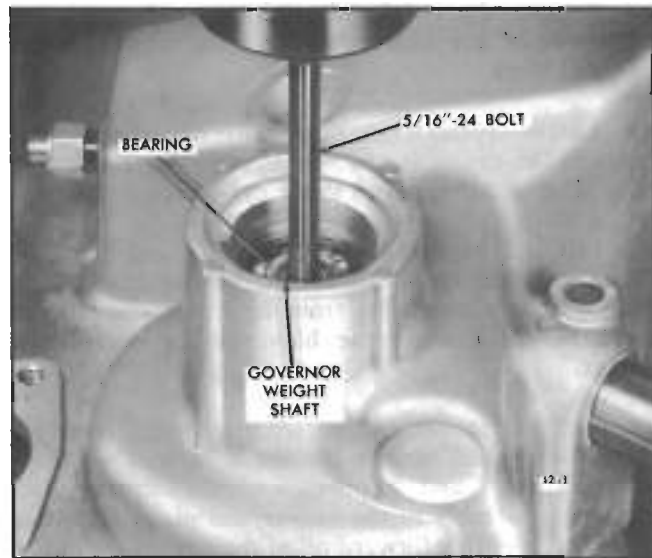

Fig. 7 - Removing Governor Weight Shaft Assembly from Governor Housing
- d. Thread a 5/16" -24 x 3" bolt into the bearing retaining bolt hole. Support the governor housing on the bed of an arbor press and press the governor weight shaft from the bearing as shown in Fig. 7.